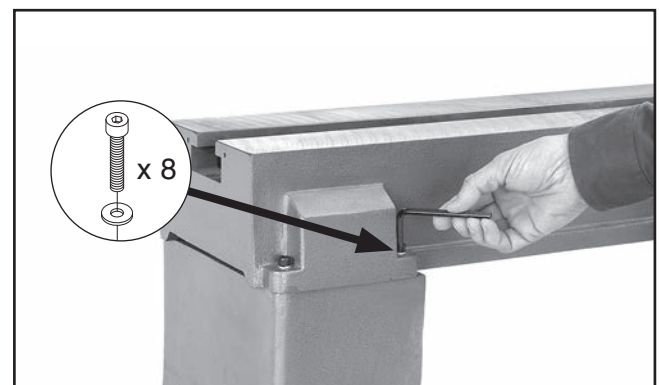

Figure 13. Securing lathe assembly.
3. Secure lathe assembly to stand legs with (8) M10-1.5 x 35 cap screws and 10mm lock washers, as shown in **Figure 13**.